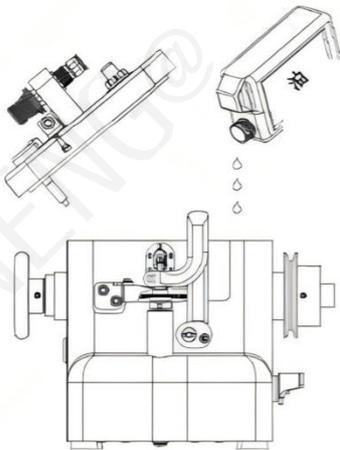

图 2 自动润滑系统
(见图 2)
- Note: If the machine is not an auto-oil type,Please fix the return pipe at the bottom of the base at first,Than mount the machine at the table.(see fig 2)